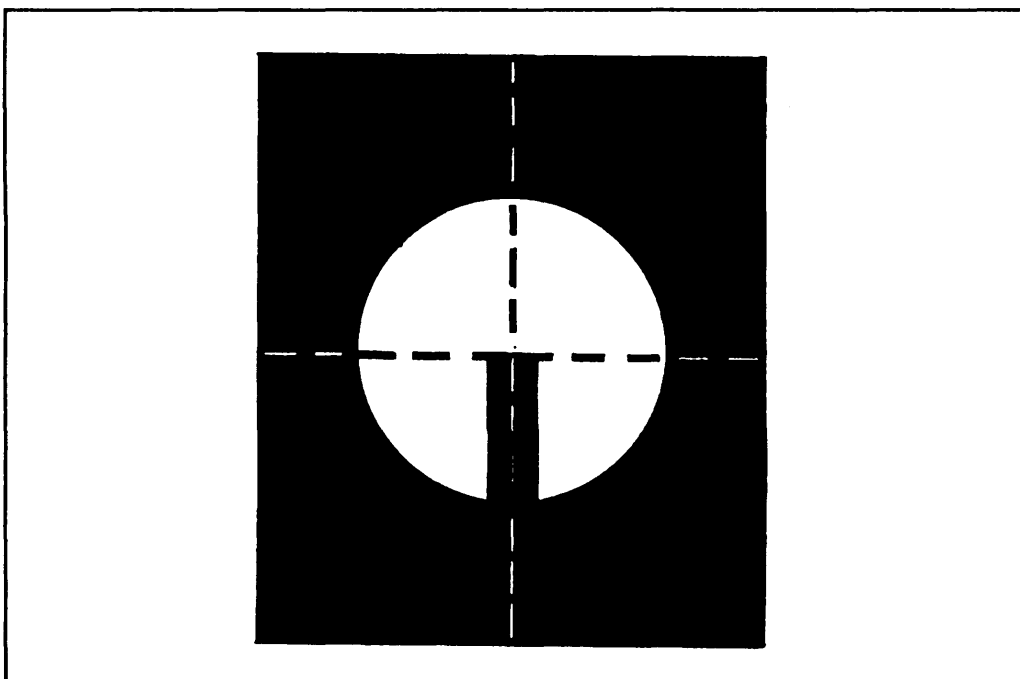

Figure 5-6. Correct sight alignment.
(1) The first step in proper sighting is finding a natural, comfortable spot where the gunner is able to see the front sight blade through the rear sight peep sight. It is important the gunner understands that the spot he chooses to sight from must be constant throughout his firing.
(2) The second step in sighting is to move the weapon until the top center of the front sight blade is exactly in the center of the rear sight peep hole. The gunner can achieve this by drawing imaginary lines that bisect in the center of the rear peephole and then placing the top of the front sight blade center of them. This is correct sight alignment (Figure 5-6).